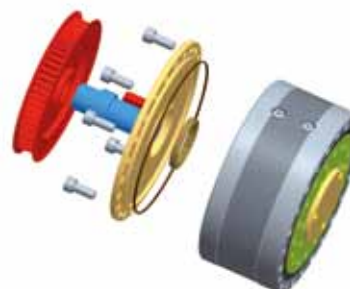

Fig. 5.1.1: Most frequent connections / Die häufigsten Anschlüsse
- Description of T model installations on Fig. 5.1.1 a, b, c, d:
Fig. 5.1.1 (a, b, c, d) shows examples of possible high precision reduction gear installations, their connections and sealing methods. In the case of direct connections (case a) of the reduction gear with a motor shaft, tolerances must be observed to avoid uncontrolled bending pressure and overload of the motor shaft. The tolerance values are given in Tab. 5.1.4.